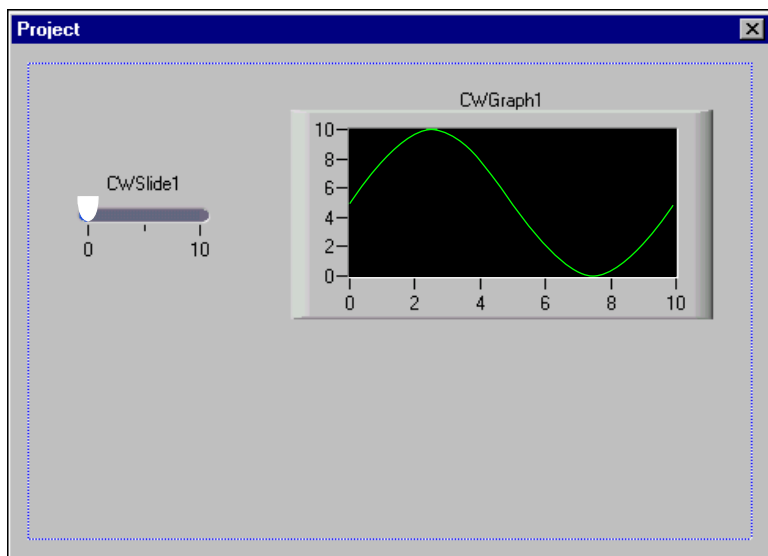

Figure 3-1. Slide and Graph Controls
9. From the bottom, left of the Controls toolbar, drag and drop the slide and graph controls onto the dialog resource, placing the controls as shown in Figure 3-1. To resize a control in the dialog resource, select the control and click and drag a corner of it.